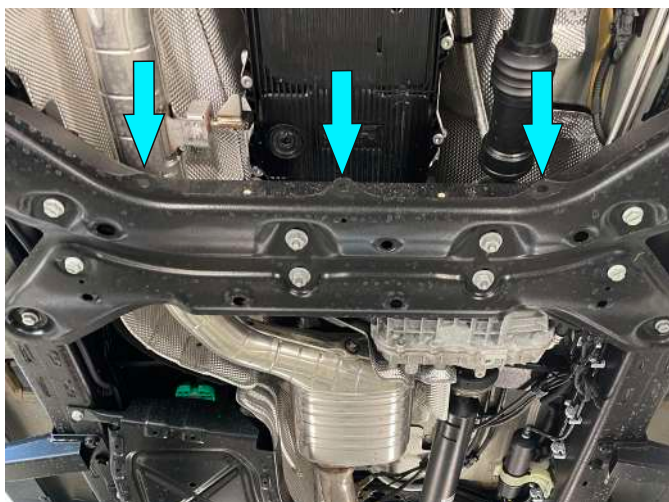
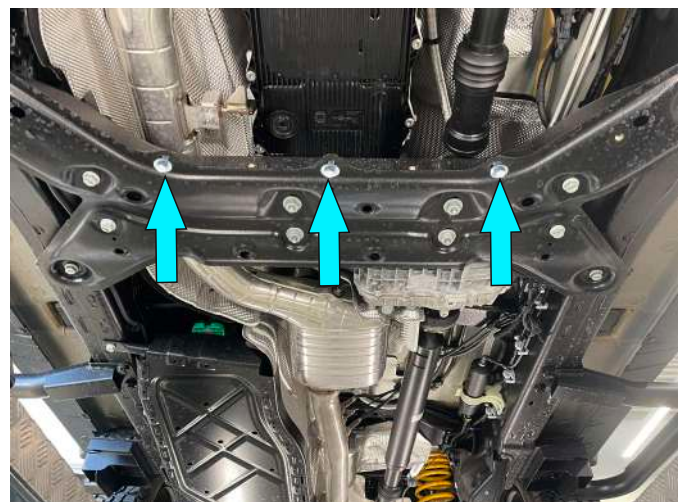

Fig. 5
Fig. 6
4. Slide the crossmember (item 2) and left side control arm skid into place. Loosely install M10x150 bolt, M10 washers and M10 nut (items A, E, F) as shown in Fig. 5 and Fig. 6.